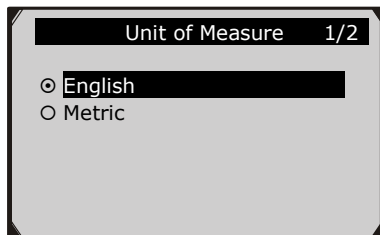

Figure 3.5
- 2) From **Unit of Measure** screen, use the **SCROLL** button to select the desired unit of measurement. (Figure 3.5)